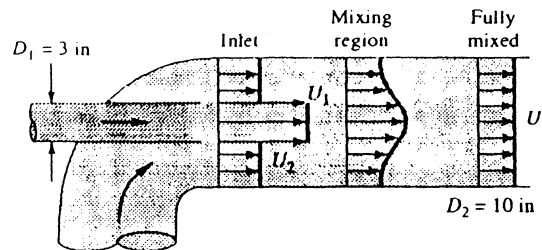

Fig. P3.36
**3.89** Consider Fig. P3.36 as a general problem for analysis of a mixing ejector pump. If all conditions ( $p$ ,  $\rho$ ,  $V$ ) are known at sections 1 and 2 and if the wall friction is negligible, derive formulas for estimating (a)  $V_3$  and (b)  $p_3$ .